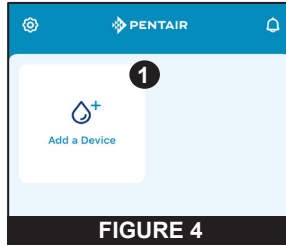

FIGURE 4
2. The Pool Dashboard screen will display (**FIGURE 4**). Tap ADD A DEVICE [1].